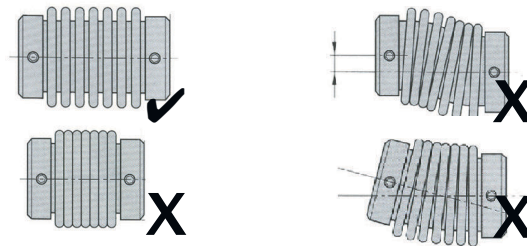

Figure 1: Coaxiality
- Loosen the 2 hexagon socket screws (1) on the clamping ring (2) with a hexagon socket wrench size 1.5.
- Take note of the mounting information in Figure 1. Min. = 6 mm, max. = 21 mm.
- Fasten stator coupling (3) with 2 screws M3 and washers (4). While doing so, make sure that you selected a tightening torque that ensures that the encoder will not to twist.
- Lightly tighten both hexagon socket screws (1) on the clamping ring (2) (torque 0.2 Nm) then subsequently tighten up fully. Locking torque = 0.6 Nm.